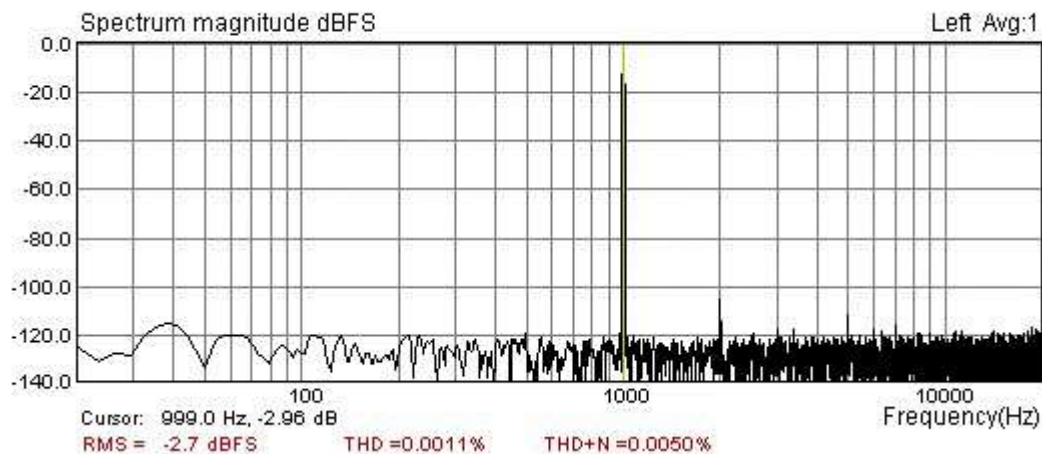

Figure 2.4 Spectrum of 1 kHz sine generator of the soundcard Terratec EWX 24/96 in loopback setup. Signal window: Kaiser5, FFT size: 16384, Fs: 48000Hz.
9. Start recording by clicking the toolbar icon  (or via menu **Recorder->Run**). You should get a response like the one shown in Fig. 2.4. This figure can be obtained by the copy/paste operation (menu **Edit->Copy**).
The bottom of Fig. 2.4 shows the spectrum value at the cursor position (frequency and magnitude), RMS level and distortions. The cursor is drawn as a thin line that can be moved by pressing left mouse button or by pressing keyboard's left and right keys.
The spectrum shown in Fig. 2.4 is obtained by following procedure:
The bottom of Fig. 2.4 shows: